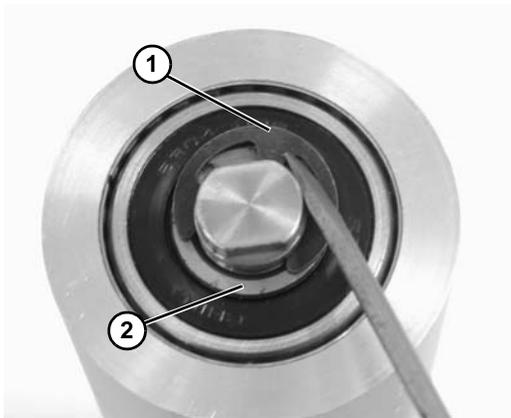

Figure 57
- Remove the pulley shaft assembly: remove the clip ring (Figure 57, item 1) and washer (Figure 57, item 2) from one side of the pulley assembly.